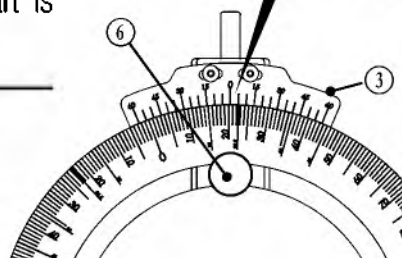

FIGURE D-1
2. Make sure the ③ Vernier Scale is calibrated (See Part II. Calibration).
3. Loosen the ⑥ Protractor Lock Knob.
5. To dial in fractions of any degree, continue moving the Protractor Scale slightly past the whole-degree until your desired fractional-degree aligns to the nearest graduation. The example in **FIGURE D** shows a setting of 20°-30", or 20-1/2°. Note that the "0" on the vernier scale is centered between 20° and 21°, and the 30" aligns with the nearest whole graduation. A handy conversion chart is included as **FIGURE D-1**.